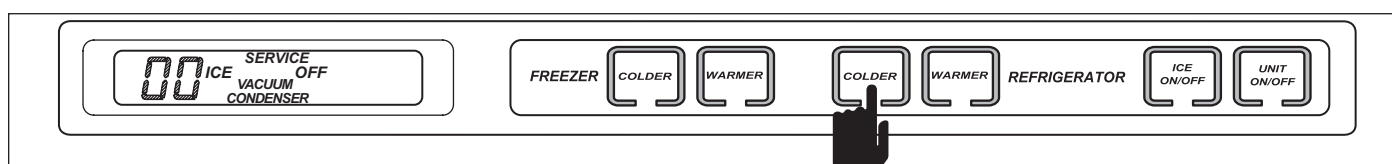

Figure 3-33. Press COLDER Key to Display Last Reading
- Press the COLDER key now to display the fifth reading. This fifth reading should be "00" because it is inactive. This area of the electronic control system is intended for possible future use (See Figure 3-33).